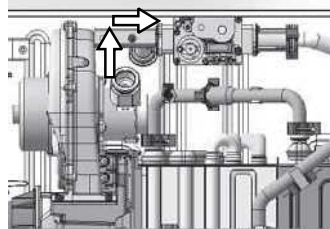

Figure 3
- 3) Disconnect the Gas Valve SET and push down it (Figure 3).